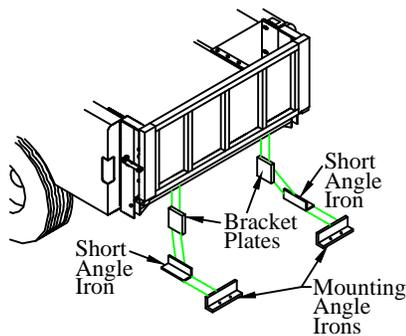

Figure 20: Lower bracket support.
2. **Bolt** the bracket plates to the truck frame (Figure 20).